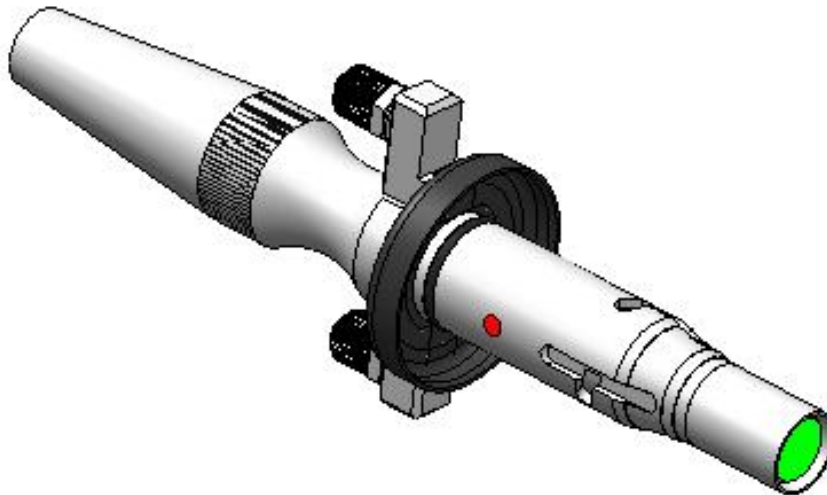

Figure 2.6
- ② Cover the dust-proof cover which is in the white accessory box, onto the fiber laser tip, as shown in Figure 2.6: